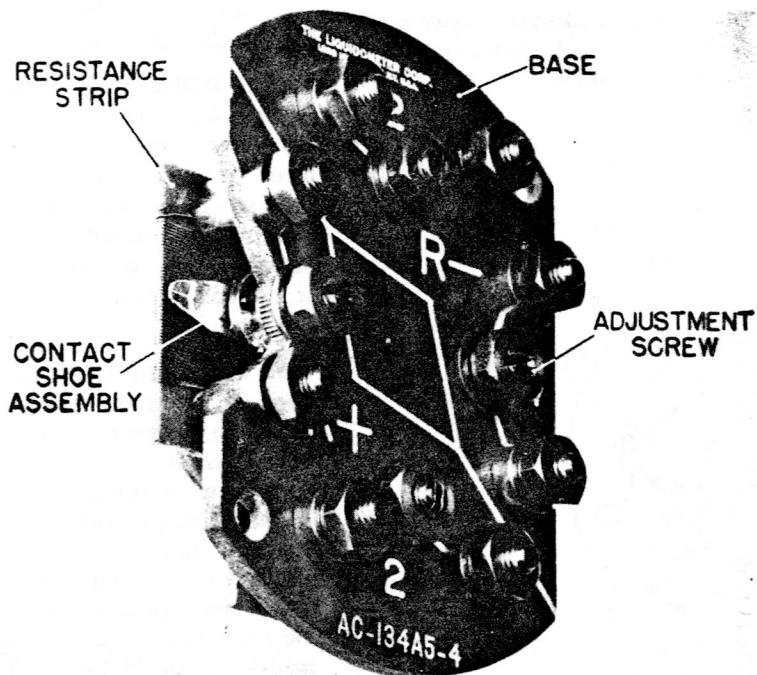

Figure 42—Cutaway View of Stroke Adjustment Unit
g. STROKE ADJUSTMENT UNIT. (See Figure 42.)—Used to set the stroke of a tank unit that does not have the adjustments incorporated in it. The Stroke Adjustment Unit corrects the variations which may exist in a tank when the tank unit is being installed and adjusted. The resistor assemblies, contained in the Stroke Adjustment Unit, set the resistance between R+ and "C" at the empty position and between R- and "C" at the full position.